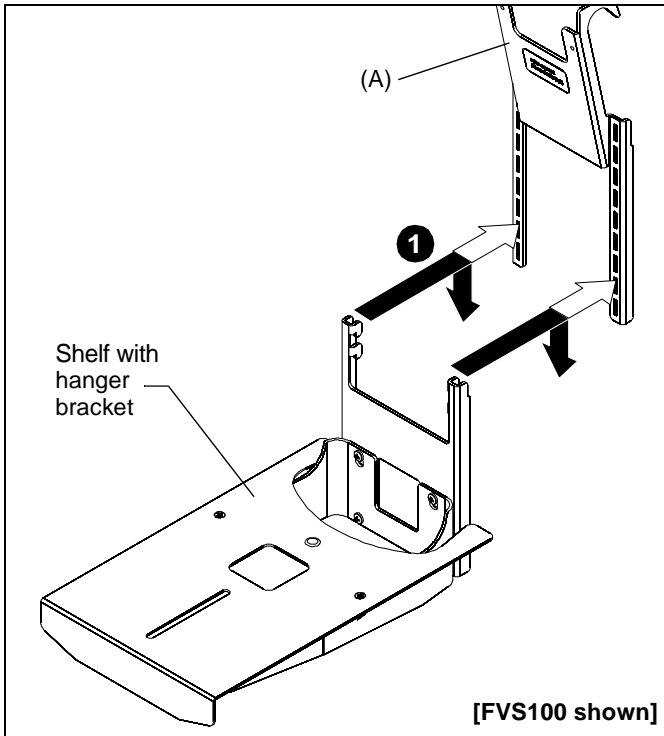

Figure 4
1. Hang shelf with hanger bracket onto the hook bracket (A). (See Figure 4)